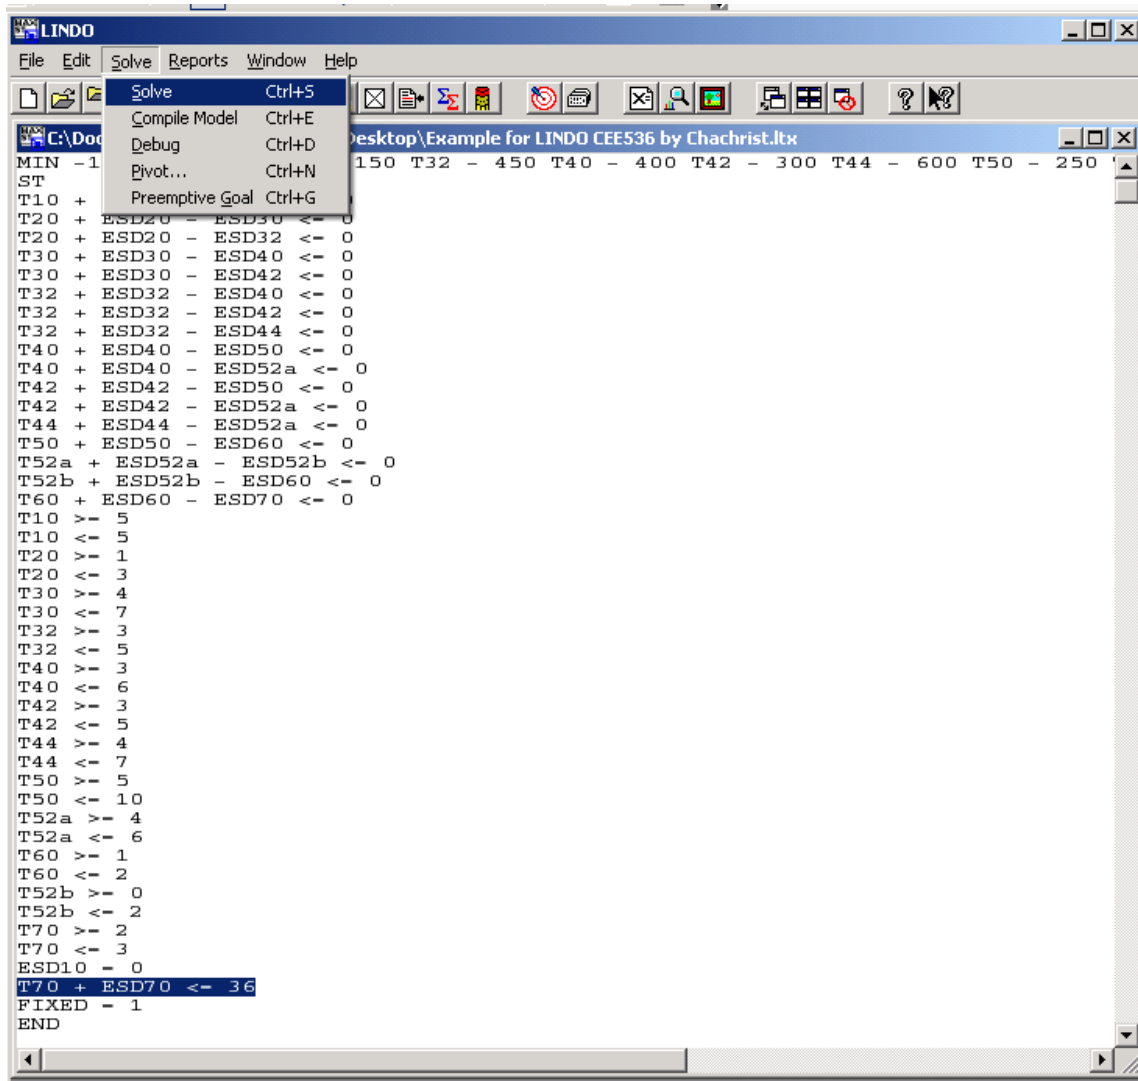

Figure 3.1: Solving
Step 3.1: Run Solve. (See Figure 3.1)